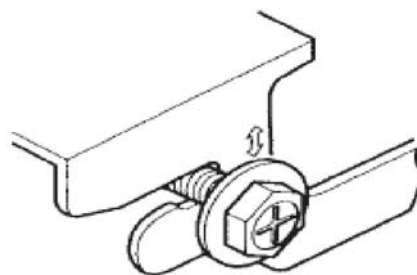

Figure 1-2-4
- ◆ Suspension bolt stays inside the cap of indoor unit .Never remove the cap. Lift the unit and slide forward unit the dent. (Refer to Figure 1-2-4)